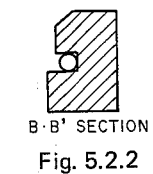

Fig. 5.2.2
(3) Referring to Fig. 5.2.2., set a dial thread into the groove on the protrusion "B" and "B'" of F11 (Lamp Base Ass'y).
(4) Perform the scale calibration as follows: